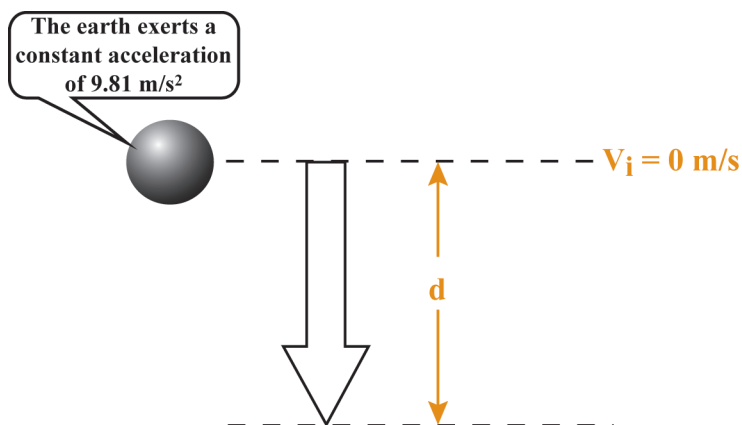

Figure 9
- ❑ 3. To find the height of the ball this problem needs to be divided into two parts. First, the ball is thrown up, and second the ball comes down. In the first or going up part we do not know what the initial velocity is; however, the second or coming down part has more information. See Figure 9.